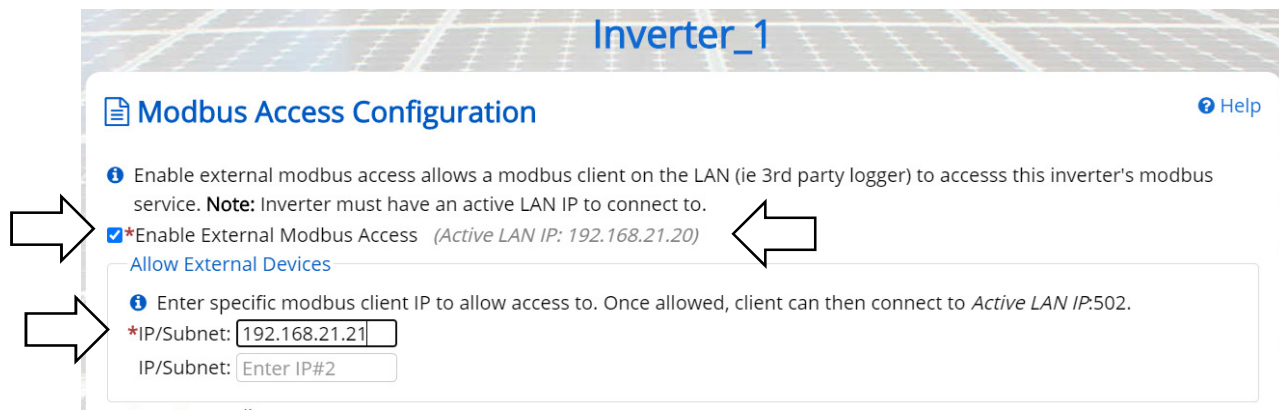

Fig. 7-8. ENABLING EXTERNAL MODBUS ACCESS, STATIC ROUTING
- Listed as **Active LAN IP** on the **Modbus Access Configuration** page, see Fig. 7-8